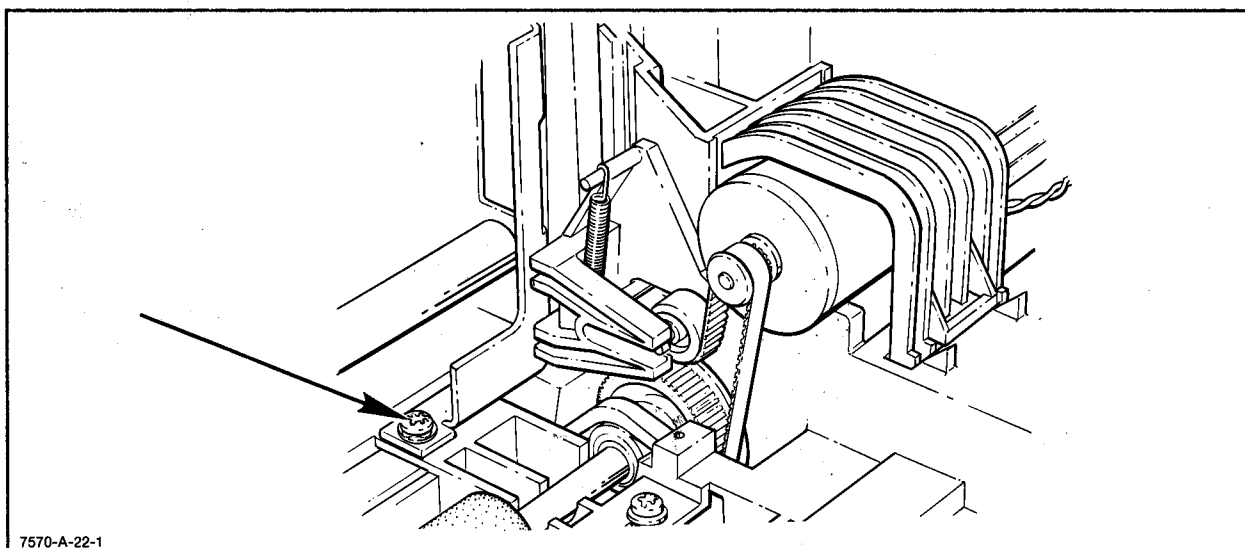

Figure 6-32. Slider Rod Restraint
- i. Remove the screw securing the slider rod restraint to the chassis. See Figure 6-32.
- g. Remove the screw from the slider rod restraint. See Figure 6-32.